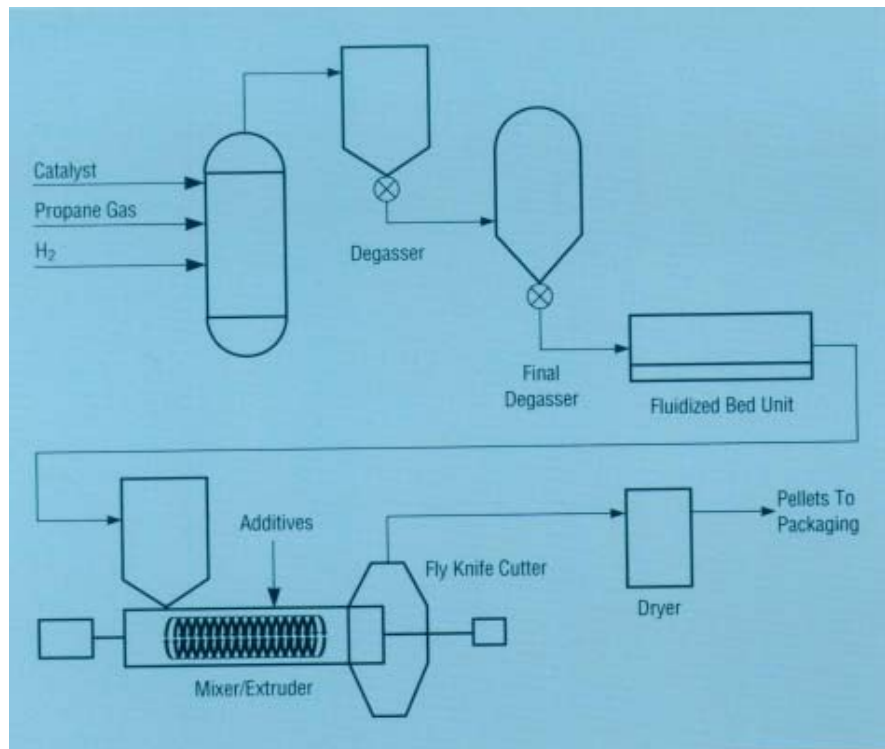

Figure 11. Process diagram for polypropylene production.
For making polypropylene (PP), LyondellBasell uses a vertical, stirred fluidized-bed, gas-phase reactor (Figure 11). LyondellBasell was the first PP supplier in the United States to use gas-phase PP technology. This process is more energy efficient and produces a more uniform product than other PP manufacturing processes.